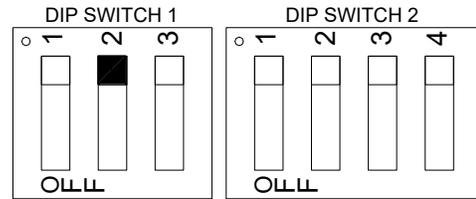

Figure 5
- PNP or NPN output signal is selected by DIP switch #1-2 (Figure 5)